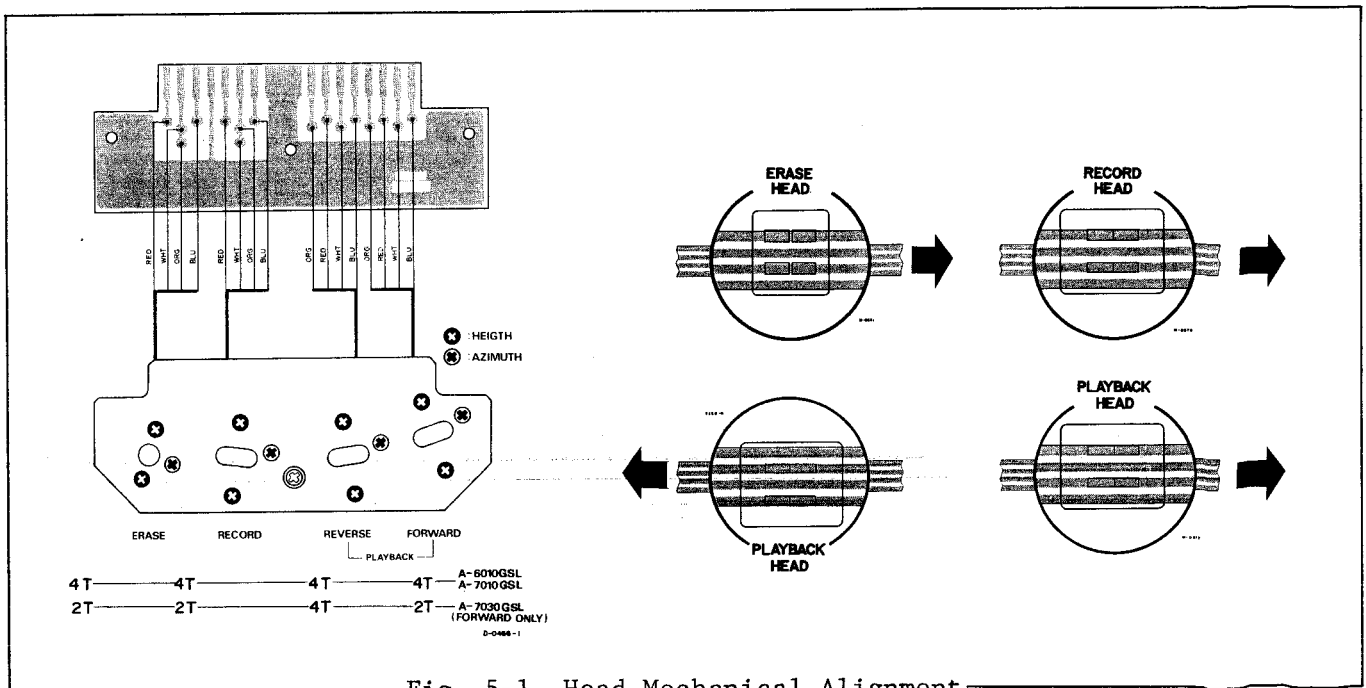

Fig. 5-1 Head Mechanical Alignment
- Using fig. 5-1 for reference, connect the new head to the circuit board.